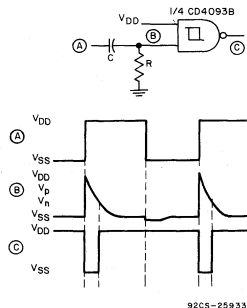
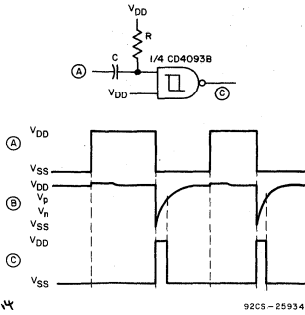

Fig.13 - Rising-edge detector.
Fig.14 - Falling-edge detector.
**Edge Detector** - Fig.13 shows a circuit that provides a short negative-going output pulse for every positive-going edge at the input. The input waveform is coupled to the input by capacitor C; the pulse length depends, as before, on R and C. If a negative going edge detector is required, the circuit of Fig.14 should be used.